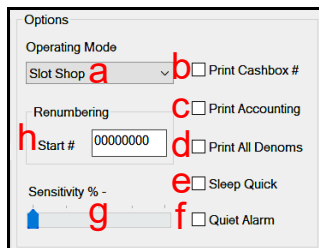

Figure 11 DSA Main Screen Options Group
When an ICB Cashbox is docked on a Docking Station, the attached Ticket Printer prints a Ticket which includes the ASSET number of the EGM (that the Cashbox came from) printed in Barcode format. When enabled by the user, the Print Cashbox # option (Figure 11 b) replaces the barcoded Asset number with a Barcode version of the currently-assigned Cashbox Number. This option is useful for customers who prefer to track Cashboxes by their Cashbox numbers, rather than Asset numbers. When the Print Cashbox # checkbox is unchecked, the Docking Station resumes printing Barcoded Asset numbers (default).
When enabled by the user, the Print Accounting option (Figure 11 c) allows for printing Revenue data on the ICB printout ticket. The Revenue data printed includes the amount of money currently in the Cashbox, the Number of Banknotes by denomination, and the Number of TITO Tickets in the Cashbox
The Print All Denoms option (Figure 11 d) works in conjunction with the Print Accounting option. When both options (checkboxes) are enabled simultaneously, the Revenue data printed out on the Ticket is enhanced, and includes a denominational table providing a numerical breakdown of all Banknotes in the Cashbox listed for each denomination in the currency set being accepted.
**NOTE:** For details on using the **Renumbering** feature (Figure 11 h), refer to page 11. For details on using the **Sleep Quick** feature (Figure 11 e) and **Sensitivity %** feature (Figure 11 g), refer to page 10.
The Docking Station features a built-in annunciator which generates audible tones in response to various activities (e.g., Docking Cashboxes, Flashing Firmware, Cycling Power). When enabled by the user, the Quiet Alarm option (Figure 11 f) disables the Docking Station annunciator so that no sounds are heard.
**NOTE:** JCM strongly recommends that Read-Write Tools (Docking Stations) operating at the same Customer site have default Cash Box numbers that differ by high digits or values, to minimize the risk of assigning the same number to two (2) Cash Boxes.
**NOTE:** The Renumbering function can be enabled/disabled from the Options Group on the DSA Main Screen (refer to Figure 11 a on page 12).
The Options Group (Figure 11) provides information and allows the user to specify settings for eight (8) functions (described on the following pages).
Operating Mode (Figure 11 a) offers a user-selectable drop-down menu with five Operating Modes for the Docking Station: Slot Shop, Auto-Init, Renumber, Peek and ICB ASAP. These Modes differ slightly, depending on whether the Docking Station is being operated a) in conjunction with the MDM Software Application, or b) in Stand-Alone mode without MDM (refer to Table 3).
- From the DSA Main Screen, a user can view the selected Operating Mode by verifying which Mode appears in the Operating Mode drop-down menu (refer to Figure 11 a on page 12).